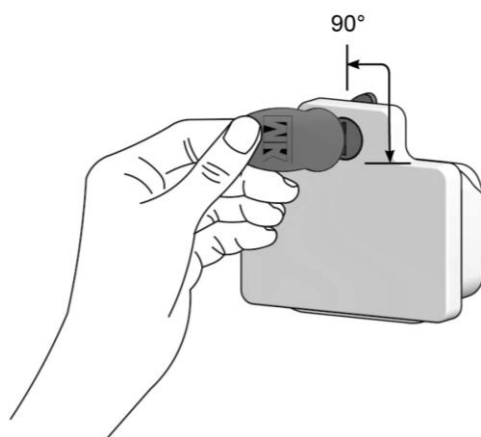
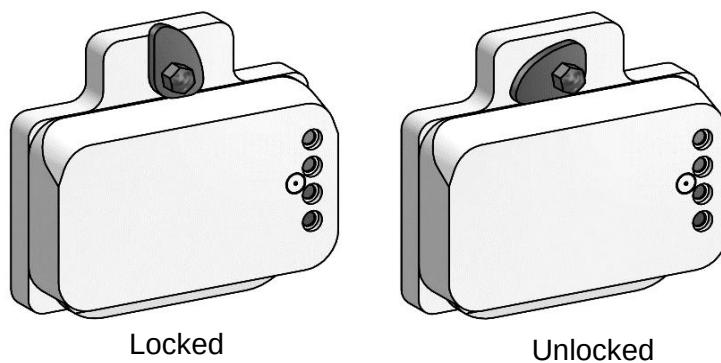

Figure 2: Adjusting the locking bolt on the battery
Figure 3: Positions of the locking bolt on the battery.
- Set the locking bolt of the battery to the unlocked position (figure 3). Turn the locking screw by 90° to bring the locking bolt into the desired position (figure 2).